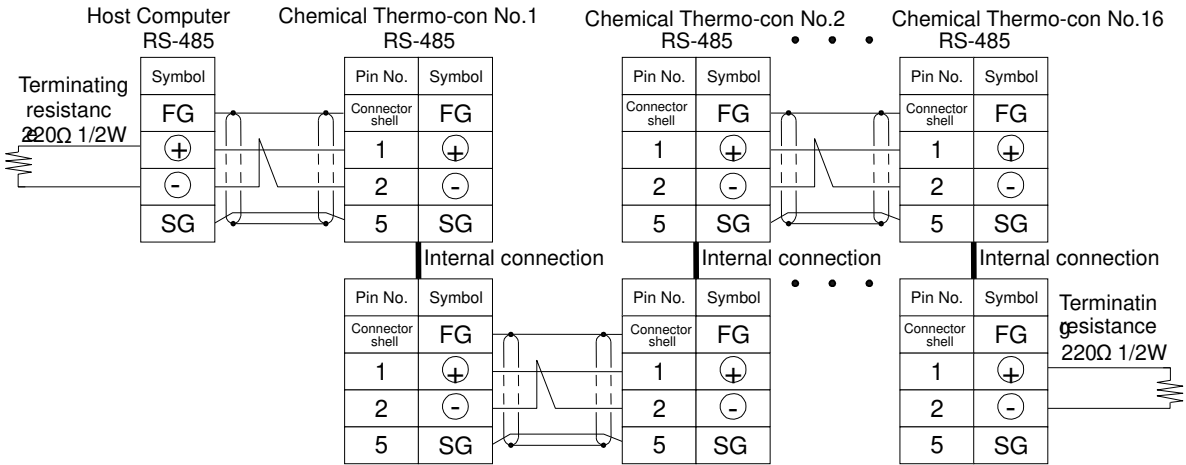

Fig. 7-1 Communication Connection (RS-485)
- *Connection drawing for communication is shown in the Fig. 7-1 and 7-2.